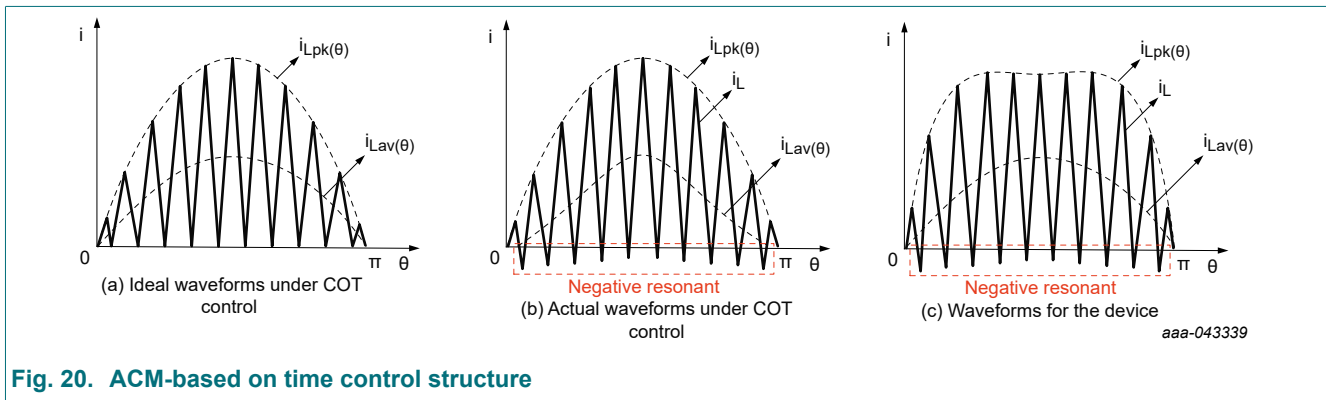

Fig. 20. ACM-based on time control structure
Fig. 20 (a) shows the ideal waveforms under COT control. However, with consideration of the valley switching, the actual waveforms under COT control are shown in Fig. 20 (b).
The inductor current has negative resonant stage which reduces the input current average value and causes severe current distortion. Equation (8) is an ideal theoretical formula without considering the negative resonant. Based on equation (7), the inductor current peak value is not sinusoidal as shown in Fig. 20 (c).